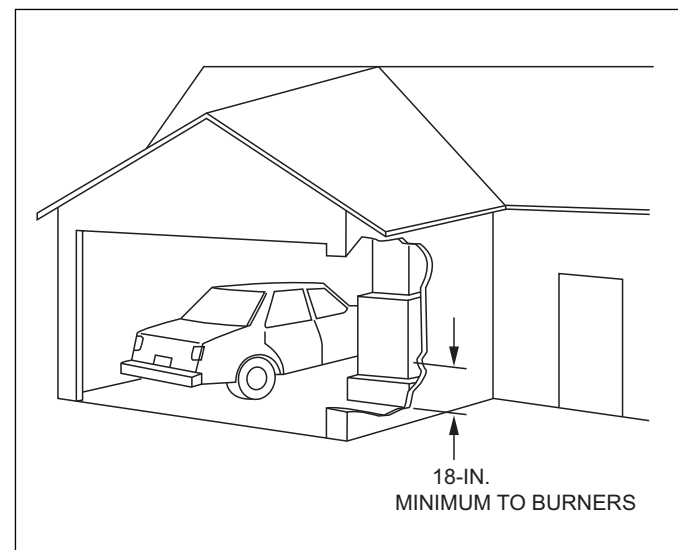

Figure 6 Installation in a garage
- ▶ When the furnace is installed in a residential garage, the burners and ignition sources must be located at least 18 inches above the floor. The furnace must be located or protected to avoid damage by vehicles. When the furnace is installed in a public garage, airplane hangar, or other building having a hazardous atmosphere, the furnace must be installed in accordance with the NFGC. (See Fig. 6).